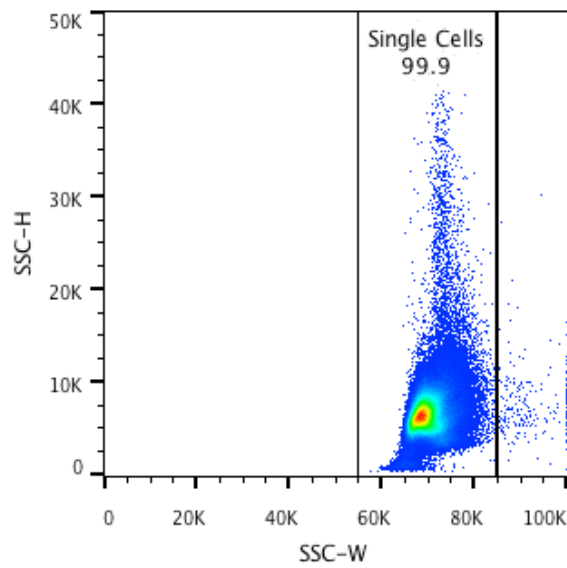

Figure 2: SSC-W vs SSC-H
- X axis = SSC-W; Y axis = SSC-H (figure 2)